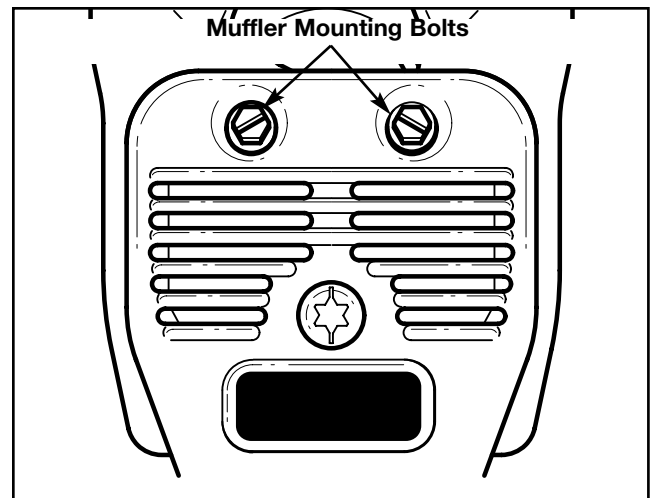

Fig. 34
1. Remove the muffler mounting bolts (Fig. 34).